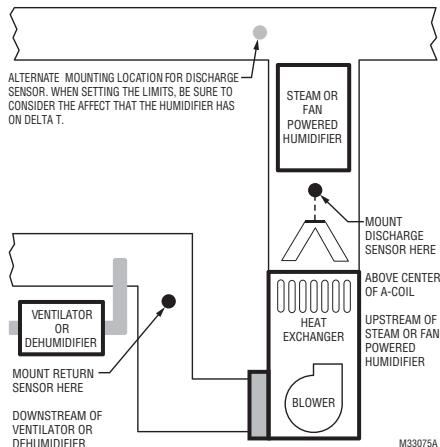

Fig. 2.
2. When possible, mount the Discharge Air Temperature Sensor upstream of a Steam Humidifier, a Fan Powered Humidifier or a Dehumidifier that is ducted to the supply. See Fig. 2–3.
3. If space does not allow a Discharge Air Temperature Sensor upstream of a Steam Humidifier or Fan Powered Humidifier, mount the Discharge Air Temperature Sensor downstream of the Humidifier. See Fig. 2. When setting the Delta T Limits (see "Set Delta T Limits" on page 5), be sure to consider the affect that the humidifier has on Delta T.